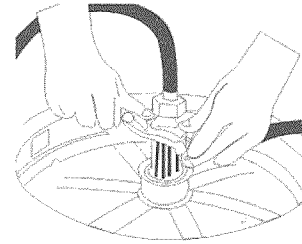

fig. 4
4. Make sure the beer tower faucet is in the closed (faucet handle pointing straight back) position before connecting the keg coupler and the beer keg. To secure the tank connection, pull the keg coupler out and push down until it locks into position. Listen for the click of the pull handle when it shifts into the final downward position. (see fig. 4)